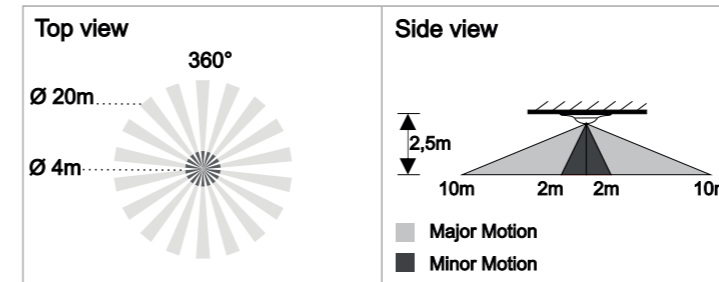

FIG. 2
3.1.1 It can be installed at the height of 2 - 3m, it's recommended to install it at the height of 2.5m to gain the optimal detection pattern, the detection range can reach up to the diameter of 20m and cover 360° detection angle (See FIG.2).